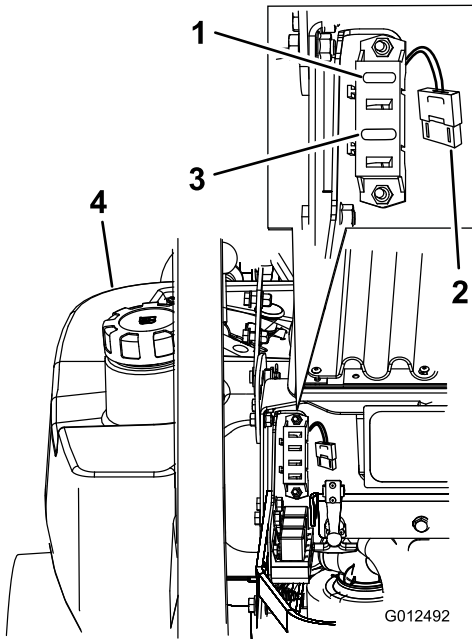

Figure 60
1. Unlatch the engine hood and raise the engine hood to gain access to fuse holder (Figure 60).
3. Install a new fuse (Figure 60).